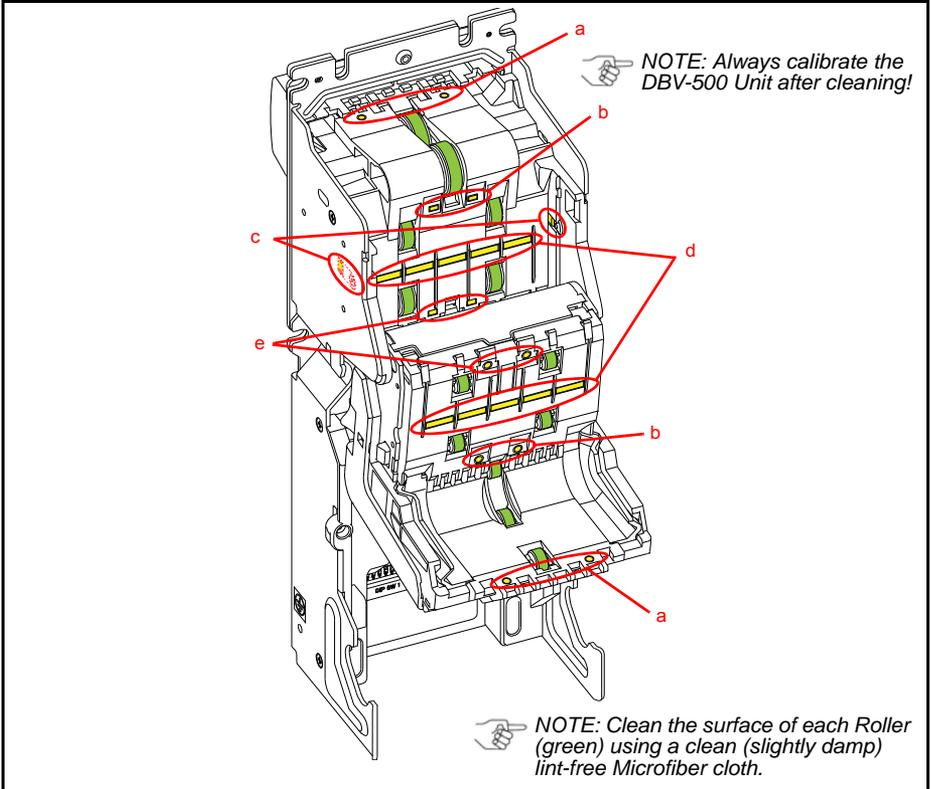

Figure 3 DBV-500 Sensor and Roller Locations
3. Clean the Lens of each Sensor (yellow) and the Rollers (green). (See Figure 3 for Locations and Table 5 for Cleaning Methods.)